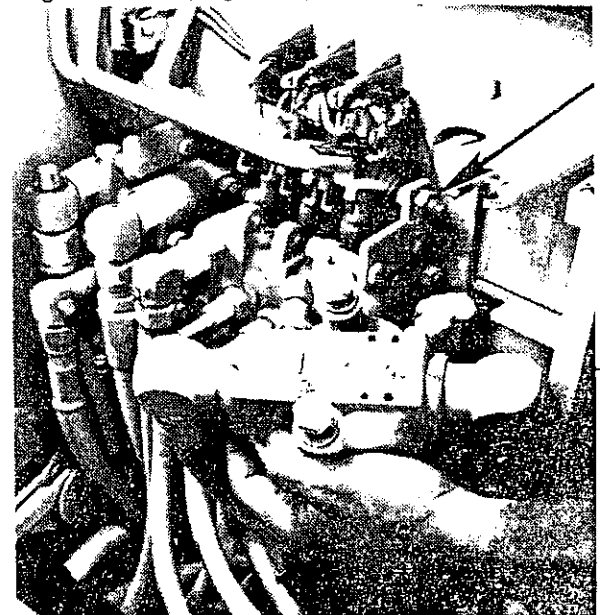

Figure 3-20
3.46.3 The hydraulic return filter may be moved for access to the control handle mounting hardware (Fig. 3-20).